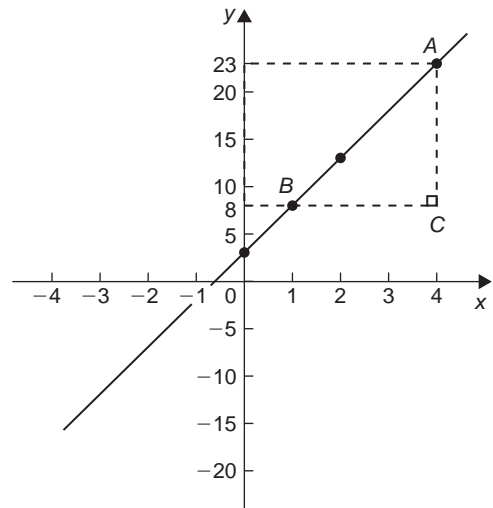

Figure 2.15
- (a) A right angled triangle ABC is constructed on the graph as shown in Fig. 2.15.